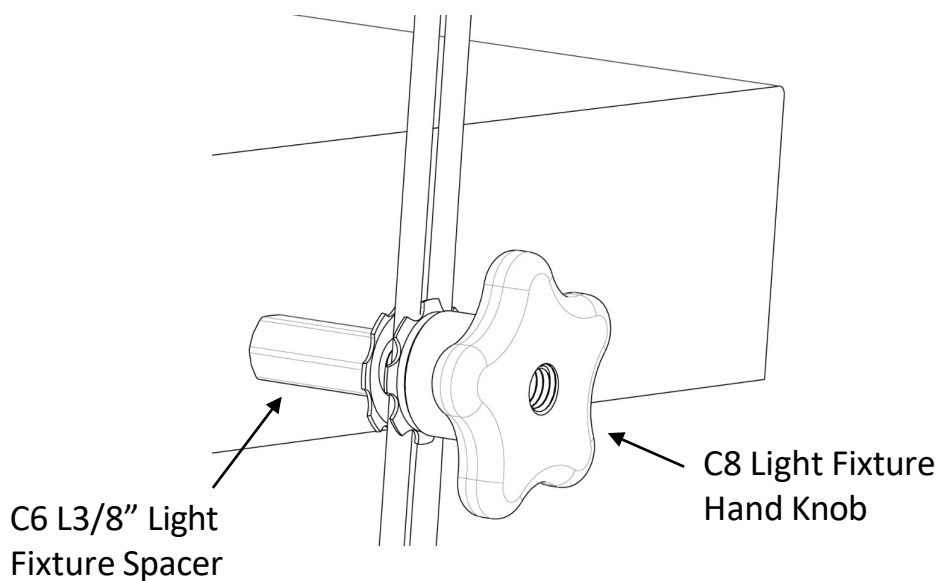

FIG. 6
11. Install **3/8" Light Fixture Support Bolts (C5)**(x8) and **3/8" Light-Fixture Spacers (C6)** (x8) onto each side of **C1** and **C2 - LED Light Fixtures**. Attach each **LED Light Fixture** (with installed Support Bolts and Nuts) onto Light Support Rods using **Dome Lock Washer Sets (C4)**(x8) and **3/8" Light Fixture Hand Knobs (C8)**(x8). Tighten **Knobs** to secure Light Fixture ends onto Light Support Rods. See FIG. 6.